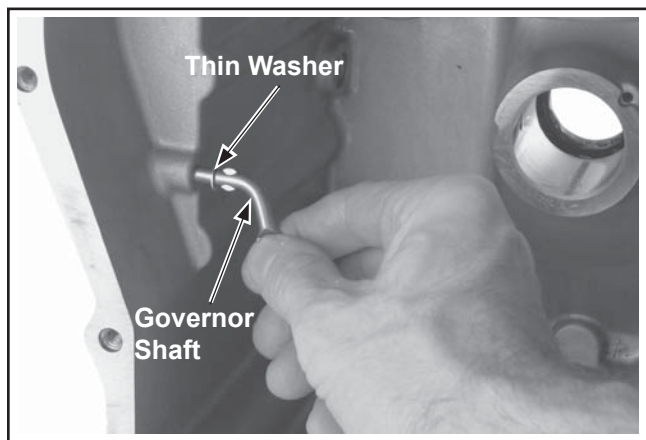

Figure 10-3. Installing Governor Cross Shaft.
2. Lightly lubricate the shaft with oil, and install it from inside the crankcase. See Figure 10-3.